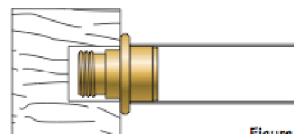

Figure 1
2. Press the coupler into the opposite end of the same barrel. Use a press block (see fig. 1) to prevent damaging the threads.